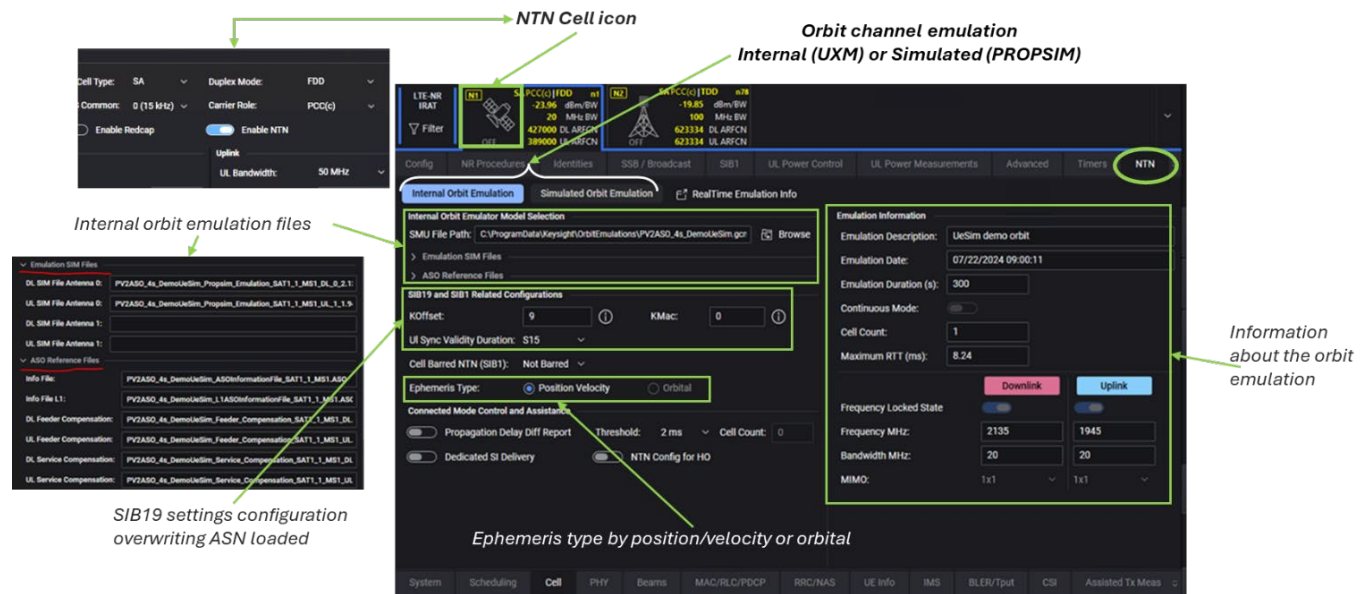

Figure 6. Example of end-to-end test configuration for NR-NTN
Just as with NB-IoT, delay, doppler, and fading emulate the satellite links within the TA to characterize a 5G NR device under varying conditions. Analyze performance in new frequency bands and mobility scenarios as defined by 3GPP including Terrestrial Network (TN) to NTN handovers. Import real satellite orbit data and configure up to four NR-NTN cells for mobility testing. Emulate 5G NR TN and NTN end-to-end (Figure 6).